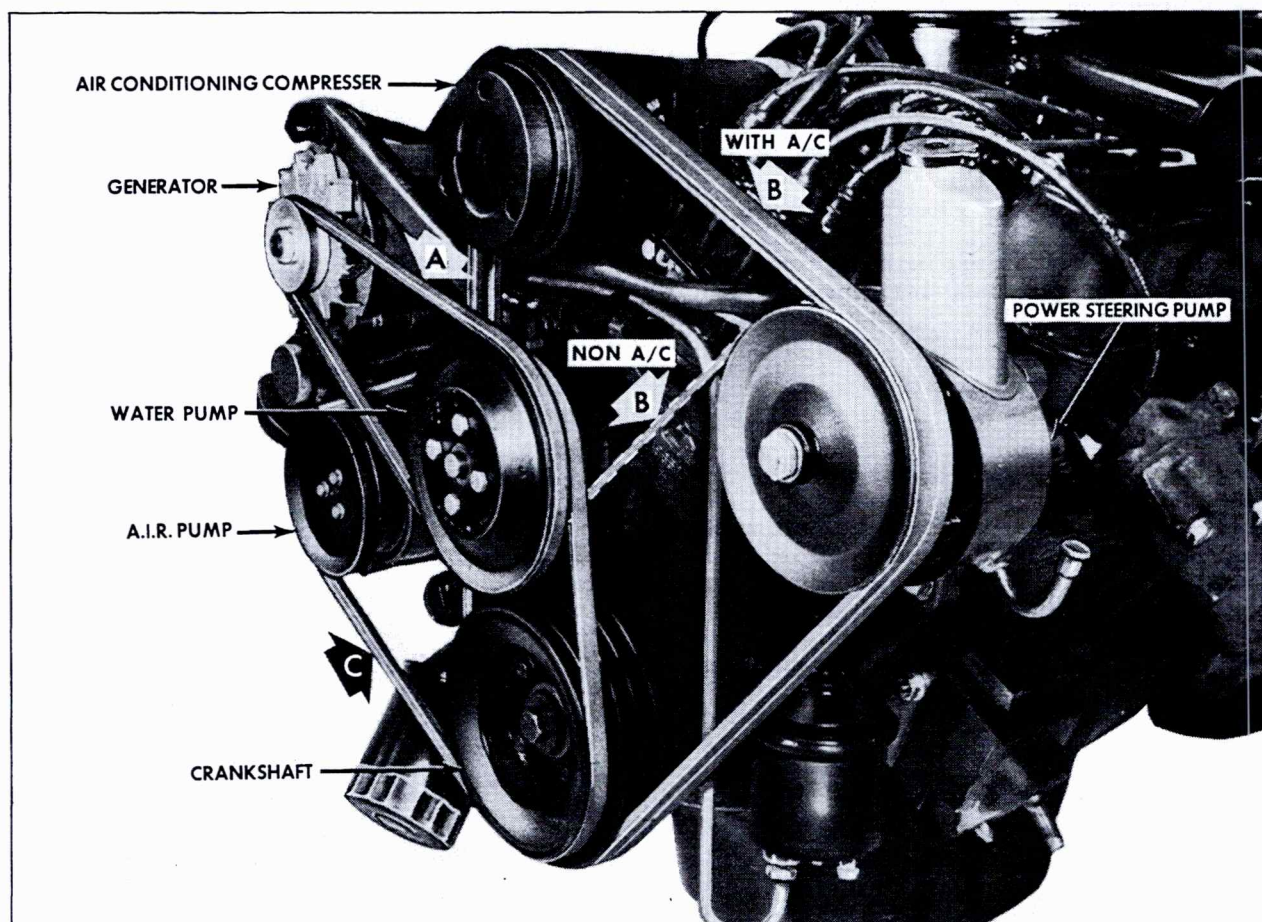

Fig. 6-6 Belt Tensioning
3. Place Belt Tension Gage, J-7316 midway between pulleys on drive belt being checked, locations A, B or C, indicated in Fig. 6-6.
1. Place Belt Tension Gage, J-7316 on drive belt midway between pulleys at location A in Fig. 6-6.
1. Place Belt Tension Gage, J-7316 on drive belt midway between pulleys at location "B", shown in Fig. 6-6.
2. Loosen, (1) steering pump adjusting nut at top of pump mounting bracket, (2) lower adjusting slot bolt and (3) pivot bolt.
4. Place Belt Tension Gage, J-7316, on drive belt midway between pulleys at location C in Fig. 6-6.